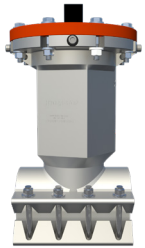

FIGURE 1
2.0.1) Inspect the valve body to ensure no damage has occurred during shipment or storage (see Figure 1).